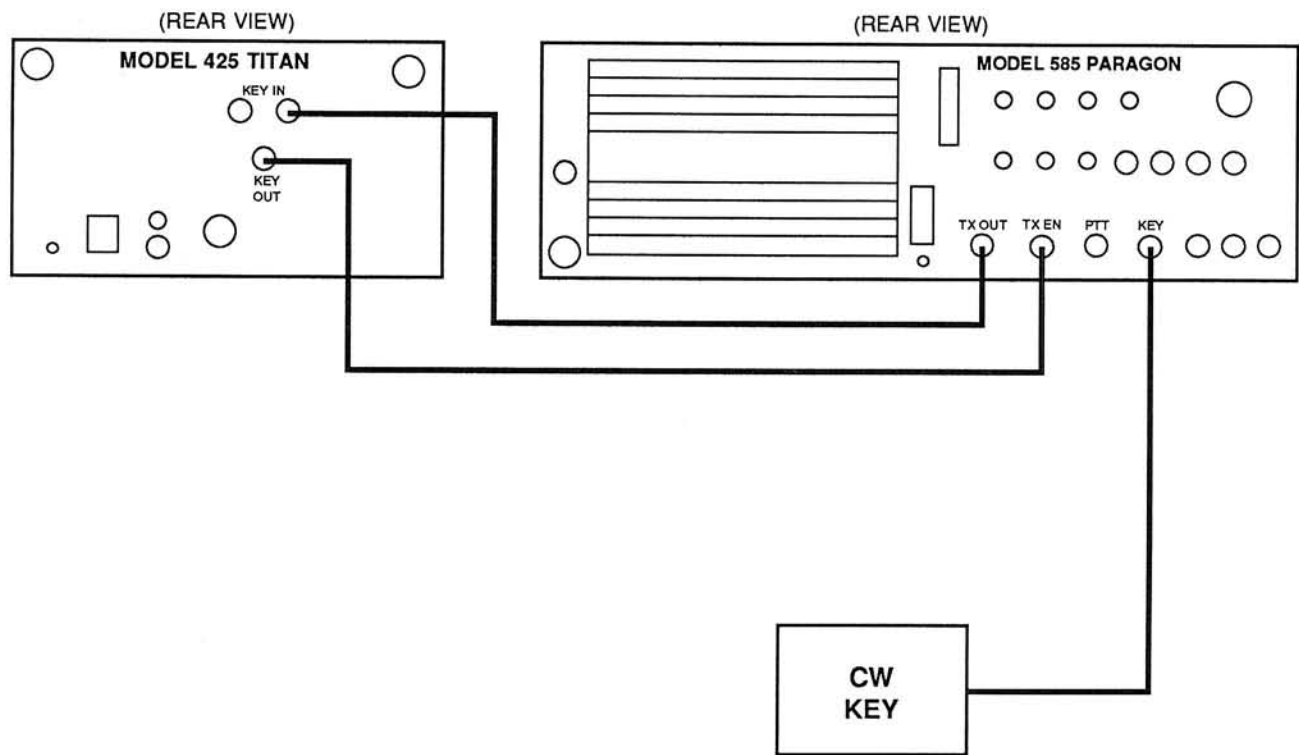

FIGURE 5-7. QSK HOOK-UP WITH TITAN AMPLIFIER
**3-5.12 TX EN / TX OUT** The TX ENable/ TX OUT jacks provide a keying loop for use with some types of external linear amplifiers. For normal operation these jacks are jumpered together. For more information refer to FIGURE 5-7 which shows the connections required for use with the TITAN amplifier.